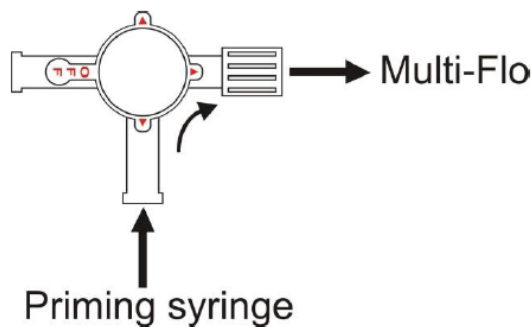

Figure 1
- a. Ensure that the 3-port valve is in the prime position as shown in figure 1 then connect it to a Multi-Flo channel inlet.
- e. Connect the syringe to the 3-port valve as shown in figure 1.